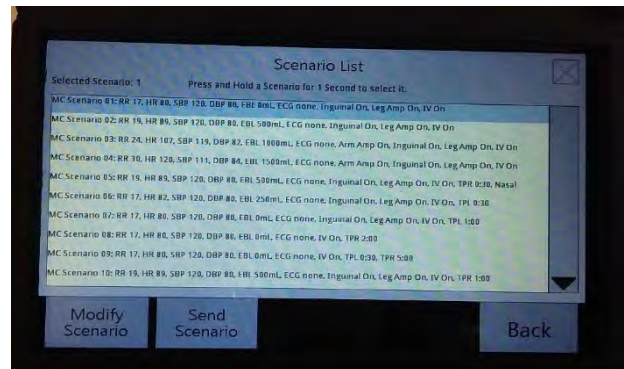

Figure 13
There are currently twenty (20) built-in training scenarios, which can be accessed by pressing the **Scenarios** button on *Global Main Screen*. These scenarios are numbered, along with a list of physiology settings including respiration rate, heart rate, blood pressure, blood loss, ECG setting, wounds turned on or off, IV turned on or off, and state of the eyes (state of the eyes is for the CRU only). These provide a starting point for a session (Figure 13). The scenarios can be run as they are or can be modified by the user either before or during a session. Changes to the scenario are automatically saved, so that scenario is then customized. Any changes can be undone at any time by pressing the Reset button on the Scenario screen.